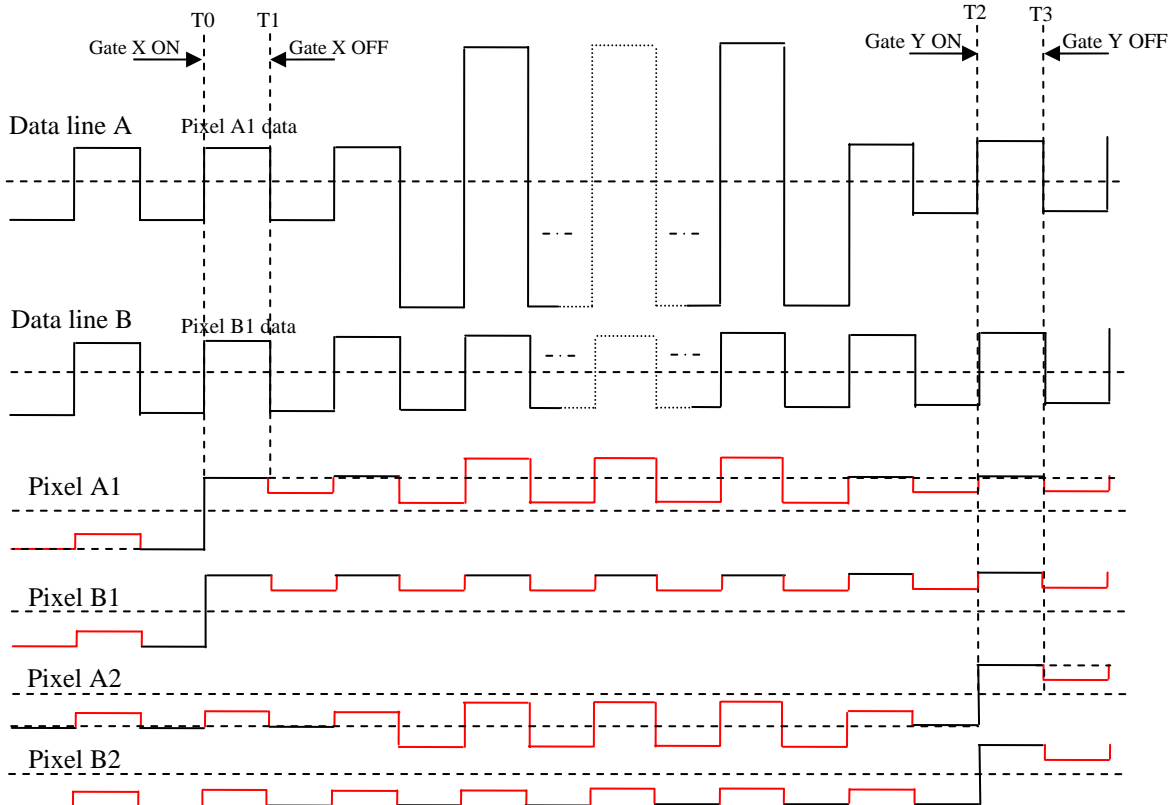

Fig 17: Pixel A1, A2 data which are affected by data line A signal (1-line inversion)
- Fig.17 shows pixel A1 & pixel A2 electrode voltage which is affected by Data line A